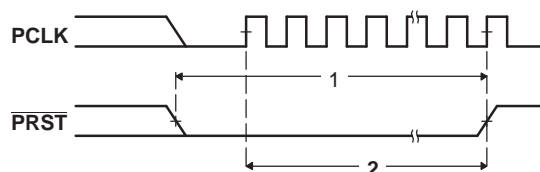

Figure 5-37. PCI Reset ($\overline{\text{PRST}}$) Timing
5.11.2 Timing Requirements for PCI Reset (see Figure 5-37)